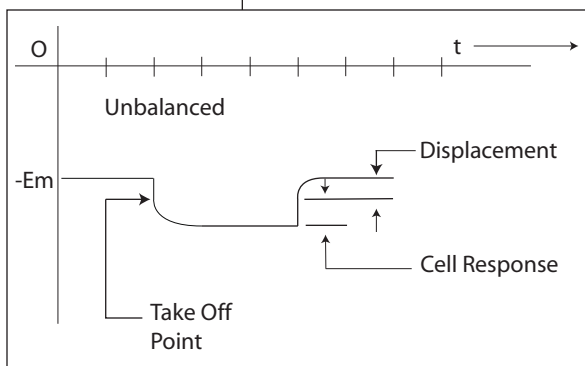
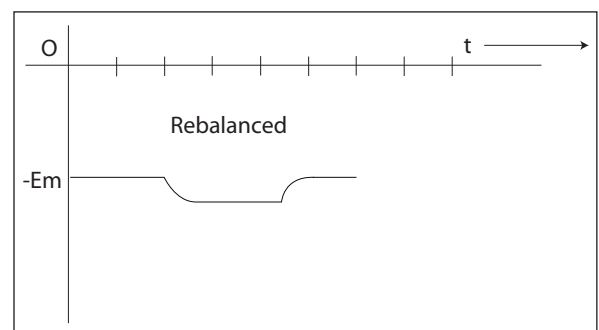

Fig. 1A
Fig. 1B
**4.4 Intracellular Electrode R Compensation:** A technique for re-balancing the Bridge intracellularly is possible because the cell's membrane time constant is usually much larger than that of the electrode, particularly with the use of shunt capacity compensation ("negative capacity", see paragraph 8.0). Note that in figure 1A above, a step of current through an intracellular micropipette electrode shows an initial fast vertical step which then slows to an exponential rounded edge. The "take-off" point of the single exponential membrane time constant starts from a point displaced from the resting cell membrane potential. If the Bridge R control is adjusted so that the "take-off" starts from the resting cell membrane potential as shown in figure 1B, the Bridge R compensation is presumed to be in proper intracellular balance. The procedure described above is justified because an applied current step produces an initial voltage increment that is due to electrode resistance only, since the membrane capacitance acts at the first instant of time to shunt membrane resistance.